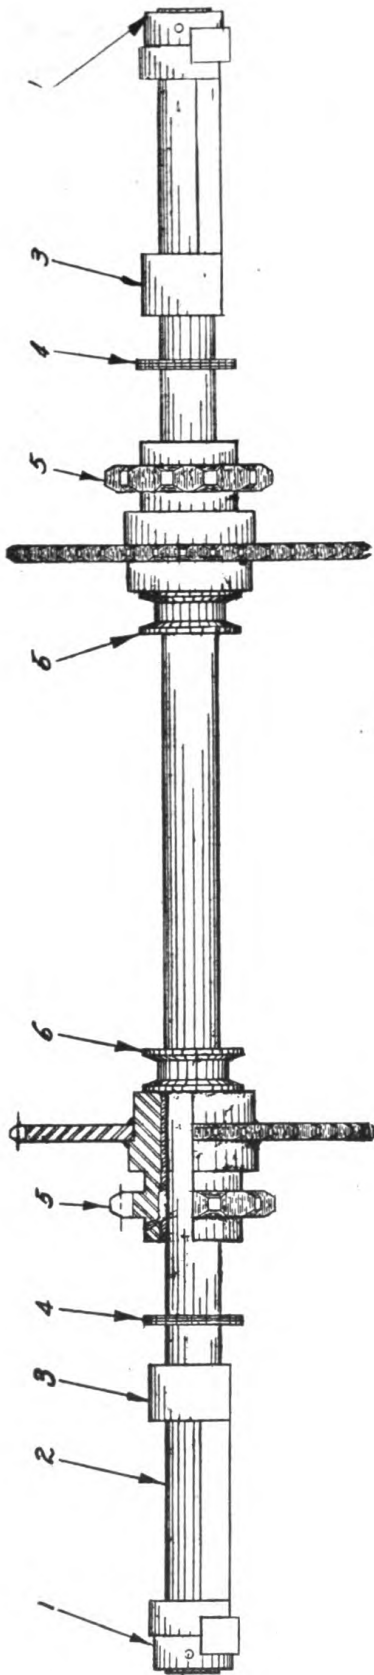

Figure 130. Crawler Oscillating Shaft.
This shaft (2), Figure 130 carries the loader weight to the drive end of crawlers and provides the pivot for crawler oscillation. Removal may be accomplished as follows:
- (d) Now remove pins from collars (1), Figure 130 and loosen set screw in hub on Tractor Unit, and collar (6). The shaft is now free to slide out releasing the bushed sprockets (5).